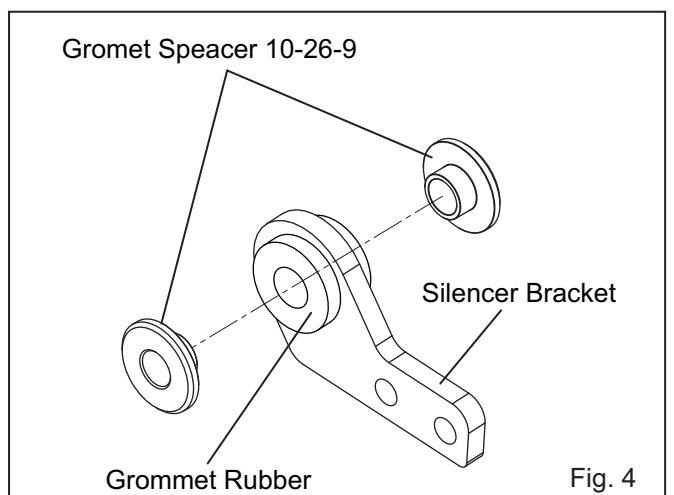

Fig. 4
- 5) Mount Grommet Rubber and 2 of Grommet Spacer10-26-9 on Silencer Bracket. (See Fig. 4)